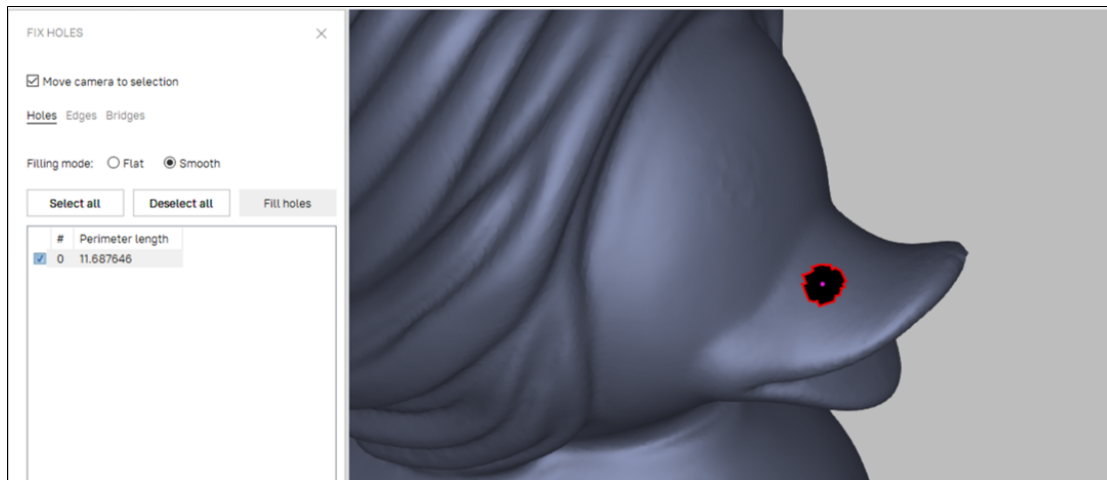

Figure 156: One hole on a curved surface, marked for correction.
3. Select a hole either in *3D View window* or mark the checkbox next to it in the list. Artec Studio will highlight these holes in red (see Figure 156).